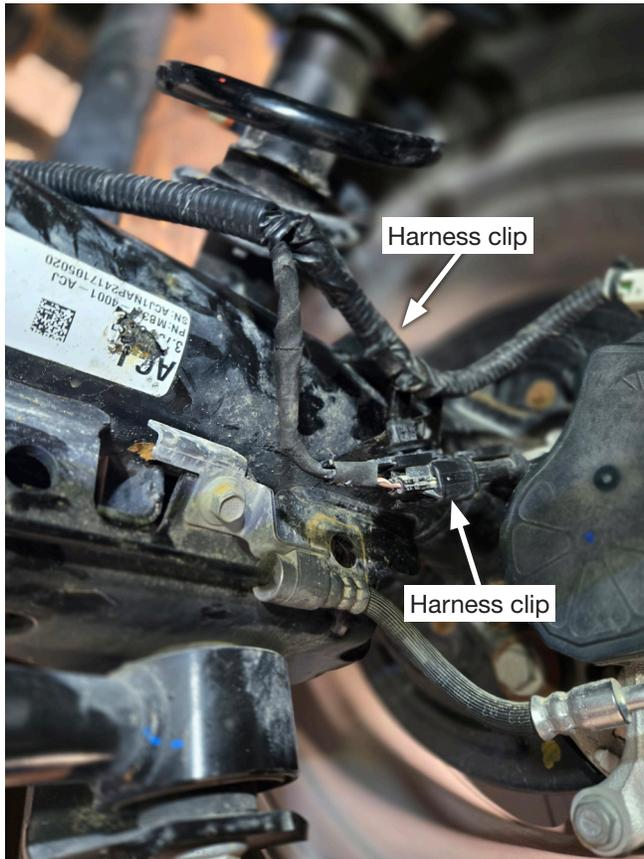

Fig. 3
2. On the passenger's (right) side axle tube, pry the (2) wiring harness clips out of the bracket on the axle (Fig. 3). A small screwdriver and/or pry bar would assist in the removal of both.